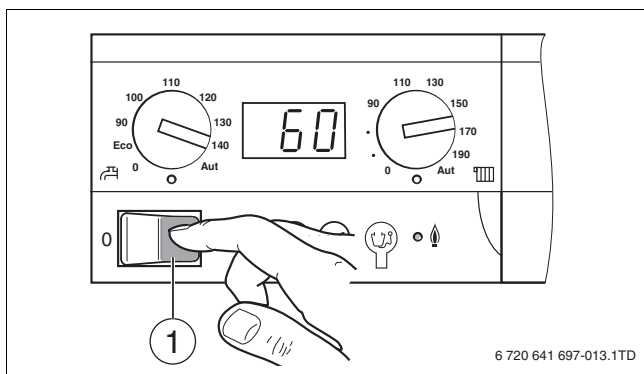

Fig. 25 Mains switch to "ON"
- ▶ Switch on the appliance using the mains switch (→ fig. 25).